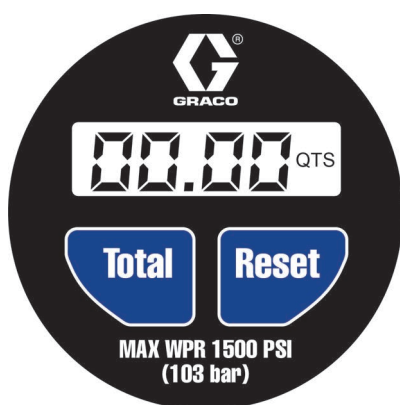
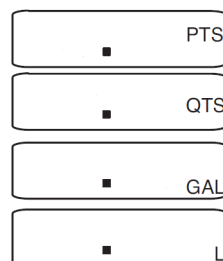

FIG. 4
FIG. 6: Example of Units of Measure (UOM)
The digital display can also be activated by pressing the **TOTAL** key or by running fluid through the meter. (FIG. 4)
Press the **RESET** key to clear the quantity of the last dispense cycle and return the digital display to all zeros. (FIG. 4).
Repeatedly press the **TOTAL** button (FIG. 4) to change the displayed unit of measure. FIG. 6 shows examples of each UOM screen.
2. When the desired UOM is displayed, press the **RESET** button (FIG. 4) to save the selection.